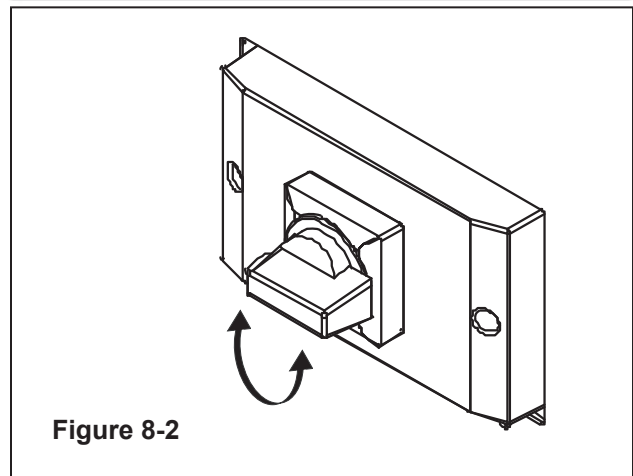

Figure 8-2
- Turn main start switch "ON" (I) (**Figure 8-2**)